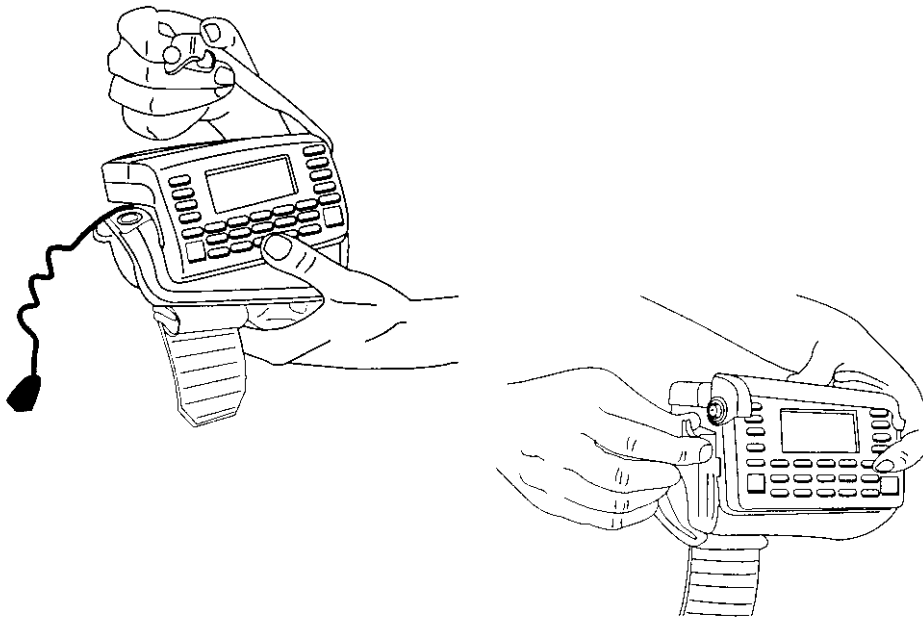

Figure 5-2. Snapping the Bar Over the WWC 1000
4. Snap the bar over the WWC 1000 using the snaps on either side of the mount. The straight part of the bar lies across the front of the WWC 1000, with the curved part in back (Figure 5-2).